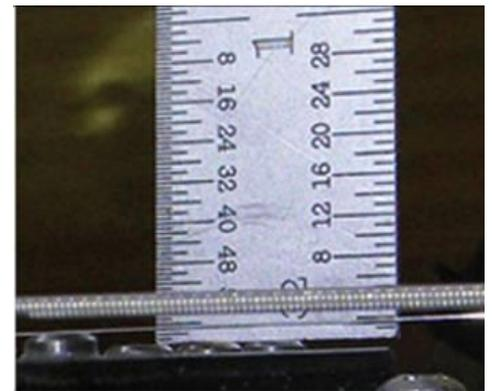

Fig 5.4 Pickup Height Measurement
5.5 Pickup Height \(Figure 5.4\)..... - 4 -
1. Check and, if necessary, adjust the low (thick) E string height at the 12th fret to 2/64". Do this by adjusting the height of the bridge at the thick E string end (Fig. 5.4). This is done by rotating the Bridge insert adjustment counter-clockwise to raise the bridge or clockwise to lower it.
5.5 Pickup Height (Figure 5.4)